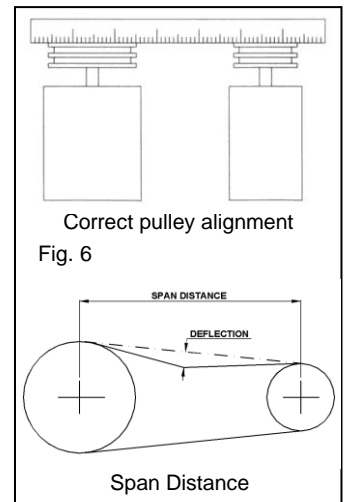

Fig. 6
2. Mount assembly in desired position on shafts ensuring both shafts are parallel and in correct alignment, use a straight edge, a correctly aligned drive will contact both pulleys squarely (see fig. 6).